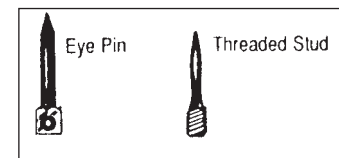

Figure 21.70
**Fasteners** used with powder-actuated tools such as studs and pins (Figure 21.70) are made of special steel to allow them to penetrate materials without breaking or bending.